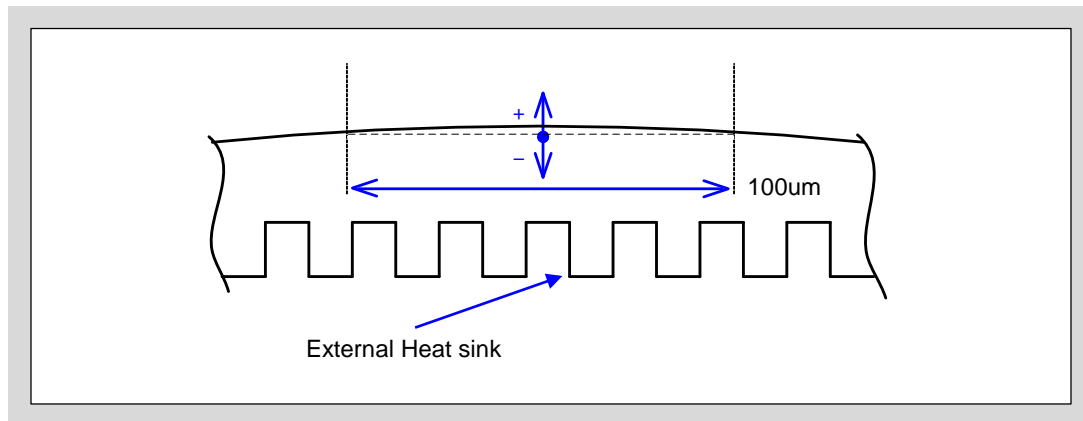

Fig. 6-2 The measurement position of heat sink flatness
- Fig. 6-2 shows the measurement position of the heat sink flatness.